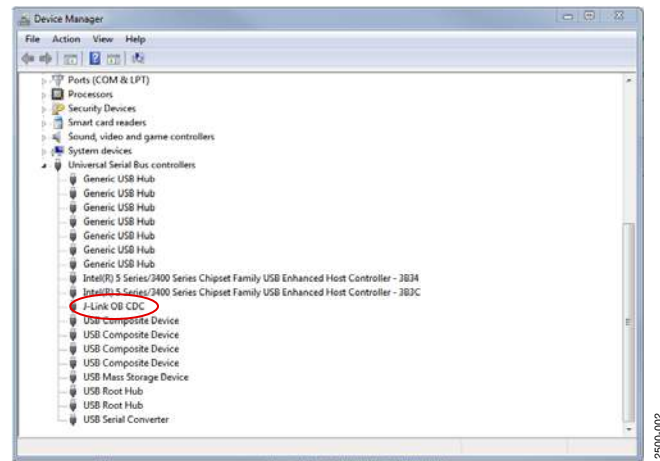

Figure 2. Device Manager
3. Verify that the emulator board appears in the Windows® **Device Manager** window (see Figure 2).